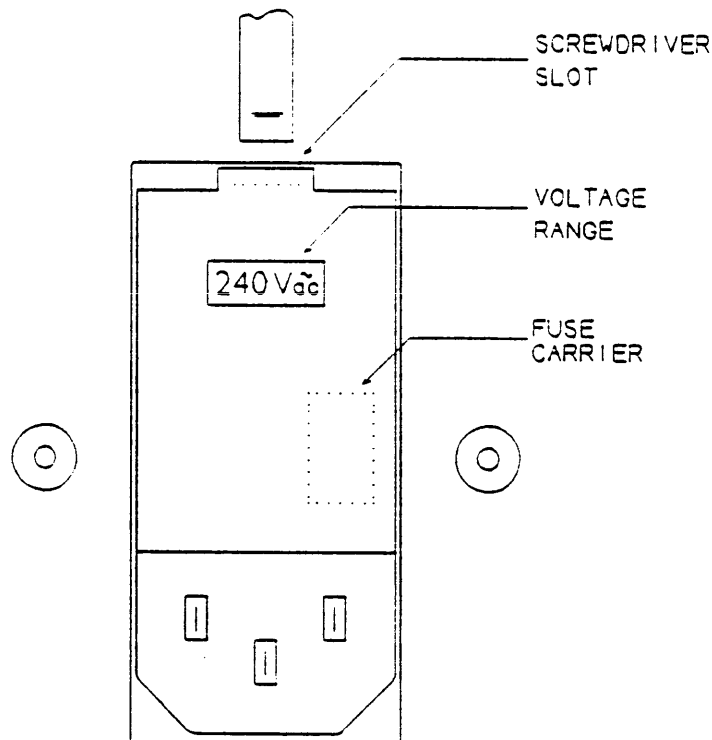

FIGURE 7.2.4 VOLTAGE SELECTION
- ii) Insert a flat-bladed (5 mm) screwdriver where illustrated in Figure 7.2.4 and hinge the panel open.